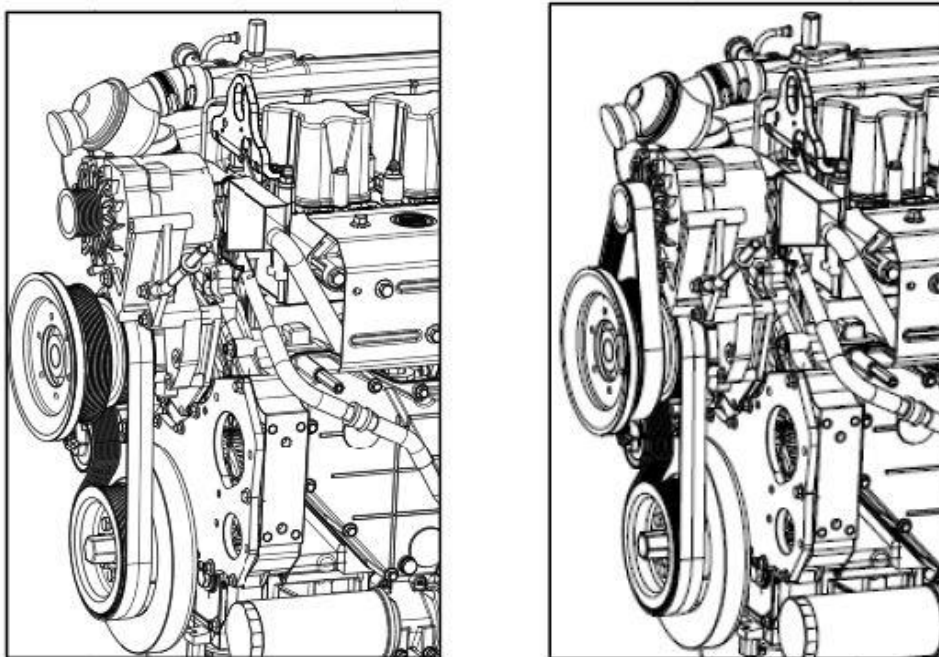

Fig. 4-80 Assembly of generator module
- (1) Place the generator on generator support, loose-fit it on the support and draw-in rod with fixing bolts.
- (2) Install generator poly V-belt.
- (3) Adjust the location of generator and tension the poly V-belt with the draw-in rod, tighten generator fixing bolts and nuts, as shown in Fig. 4-80.